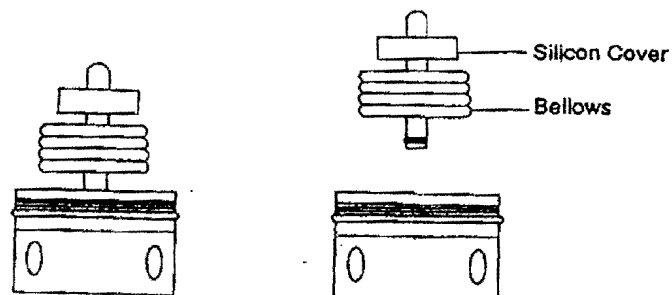

FIGURE 3-8, SILICON COVER & BELLWS
4. Replace the bellows and the silicon cover. (See Figure 3-8)